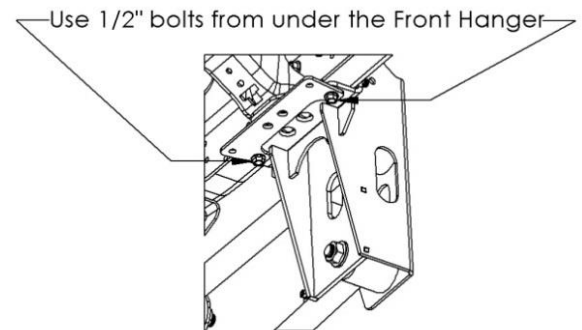

Figure 18. Use 1/2" bolts from under the front hanger
1. Locate the Volume Mount Adapter and attach it to the bottom of the driver side Front Hanger, using the 1/2" fasteners used to attach the front hanger to the bottom of the frame. See Figure 18
2. Locate the Volume Mount Shim, (2) M10-1.5 x 40mm bolts, (1) M10 nut, (2) 1/2-13 Bolts, and (2) 1/2-13 lock nuts.